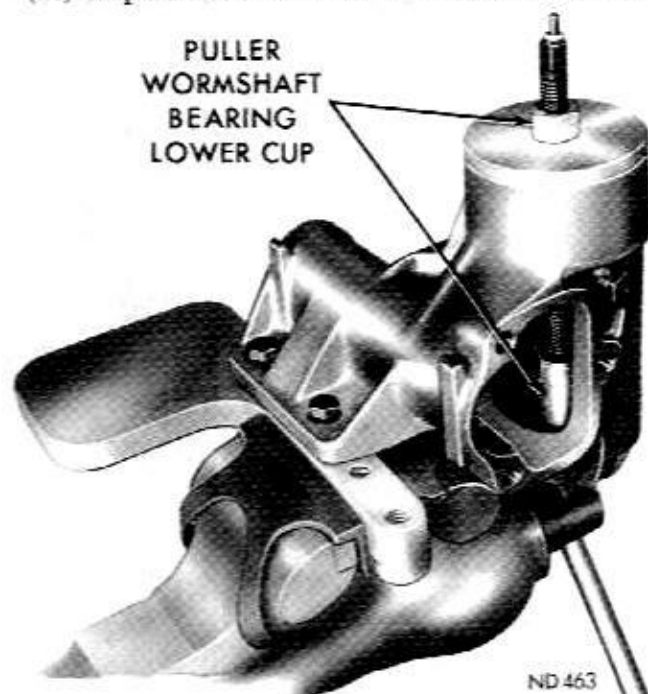

Fig. 8—Removing Lower Bearing Cup
(11) Remove wormshaft oil seal from wormshaft bearing adjuster, by inserting a blunt punch behind seal and tap alternately on each side of seal until seal is driven out of adjuster.
(12) Remove wormshaft spacer and upper bearing cup in same manner. However, this must be done carefully to avoid cocking bearing cup and distorting adjuster counterbore.
(13) Remove lower cup if replacement is necessary by positioning locking head jaws of remover Tool C-3868 (Fig. 8) behind bearing cup and expanding remover head by pressing down on center plunger of tool. Withdraw bearing cup by turning remover screw nut in a clockwise direction while holding center screw.
(14) Wash all parts in clean solvent and dry with compressed air.
(15) Test operation of ball nut assembly on wormshaft. If ball nut does not travel smoothly and freely on wormshaft and there is roughness or binding, assembly must be replaced.
(16) Extreme care is necessary when handling aluminum worm bearing adjuster to avoid damaging threads. It is equally important to avoid damaging mating threads in gear housing. The wormshaft adjuster must **never** be screwed into housing without lubrication, or when threads are dirty or damaged. These precautions **must** be taken to avoid "picking up" threads and ruining housing and/or wormshaft bearing adjuster.
(17) Inspect cross shaft for wear and check fit of